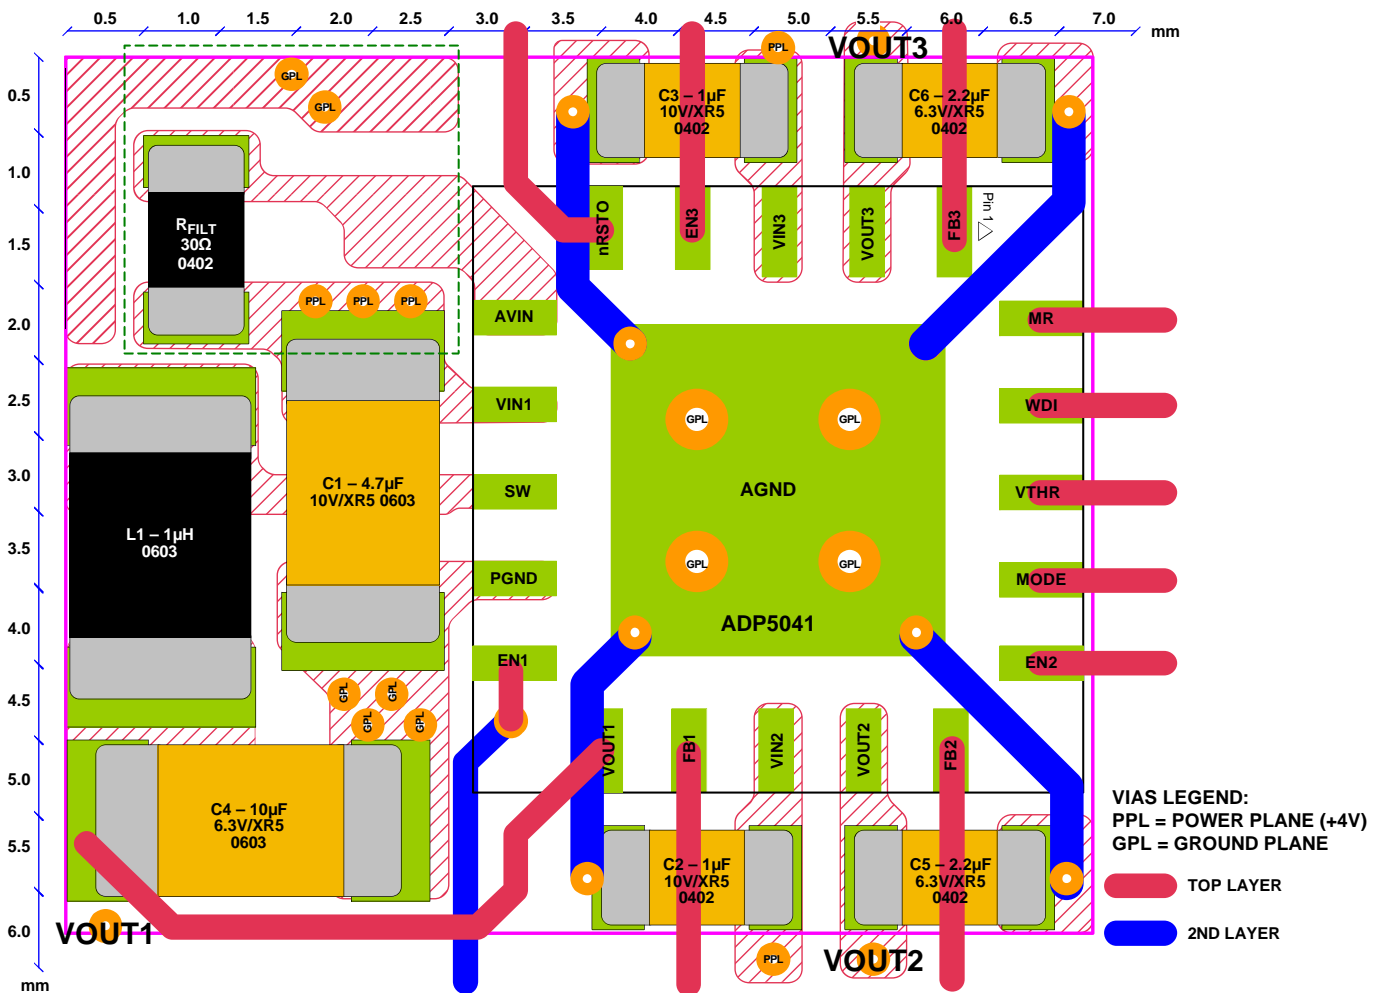

Figure 114. Suggested Board Layout
The typical  $\theta_{JA}$  value for the 20-lead, 4 mm  $\times$  4 mm LFCSP is 38°C/W (see Table 7). A very important factor to consider is that  $\theta_{JA}$  is based on a 4-layer, 4 inch  $\times$  3 inch, 2.5 oz copper, as per JEDEC standard, and real applications may use different sizes and layers. To remove heat from the device, it is important to maximize the use of copper. Copper exposed to air dissipates heat better than copper used in the inner layers. The exposed pad (EP) should be connected to the ground plane with several vias as shown in Figure 114.
See Figure 114 for an example layout.